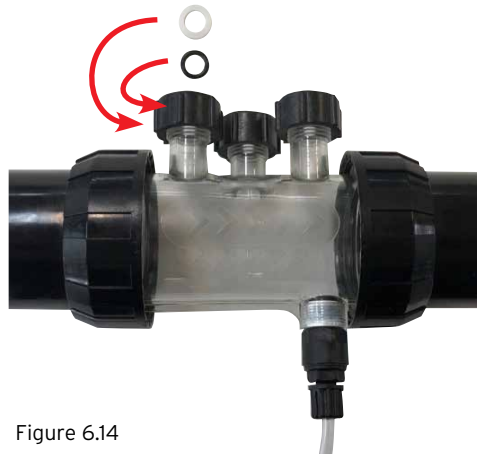

Figure 6.14
- On the probe and injection housing, under each of the 3 x probe locking nuts, is an o-ring and washer (refer Figure 6.14). Remove the first probe locking nut on the housing (where it's marked pH)